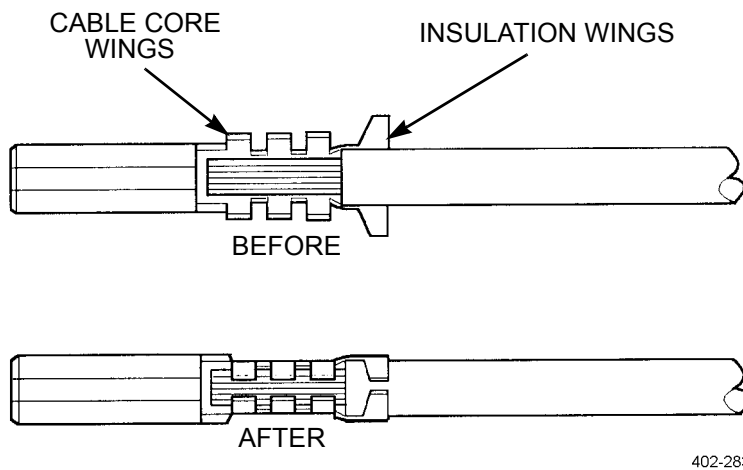
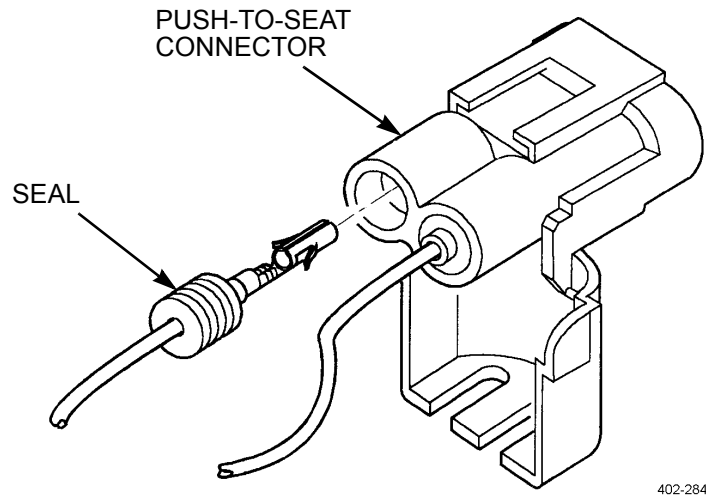

Figure 8. Cable and Terminal Position Before and After Crimping.
Figure 9. Inserting Terminal in Connector.
- (2) Insert cable into terminal until stripped position is positioned in cable core wings, and seal and insulated portion of cable are in insulation wings (Figure 8).
- (3) Compress handles of crimping tool until ratchet automatically releases and crimp is complete. A properly crimped terminal is shown (Figure 8).
- (4) Release crimping tool with lock lever located between handles, in case of jamming.
- (5) Push crimped terminal into connector until it clicks into place. Gently tug on cable to make sure it is secure (Figure 9).